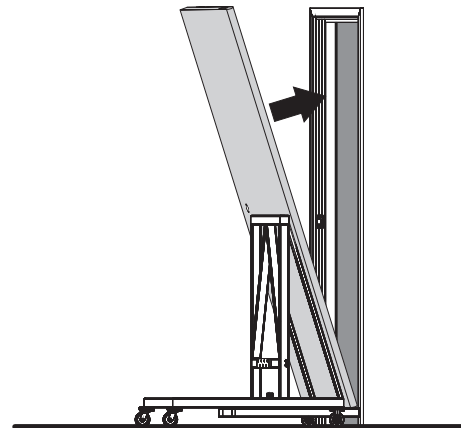

Figure 6
**Caution:** Know weight of door before attempting to install. Determine proper equipment needed to prevent door from falling. (Figure 6)